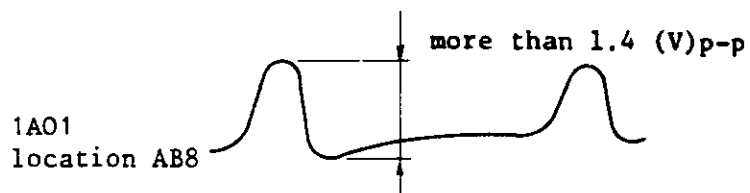

Figure K.27 Low tape output
- (1) Unload the tape and connect the field tester to the MTU at 1C05.
- (2) Set the field tester to machine reel FWD (command code D2).
- (3) Check that the output voltage on the MTU logic gate motherboard (location AB8) is +1.4 Vp-p or more, as shown in Figure K.27.